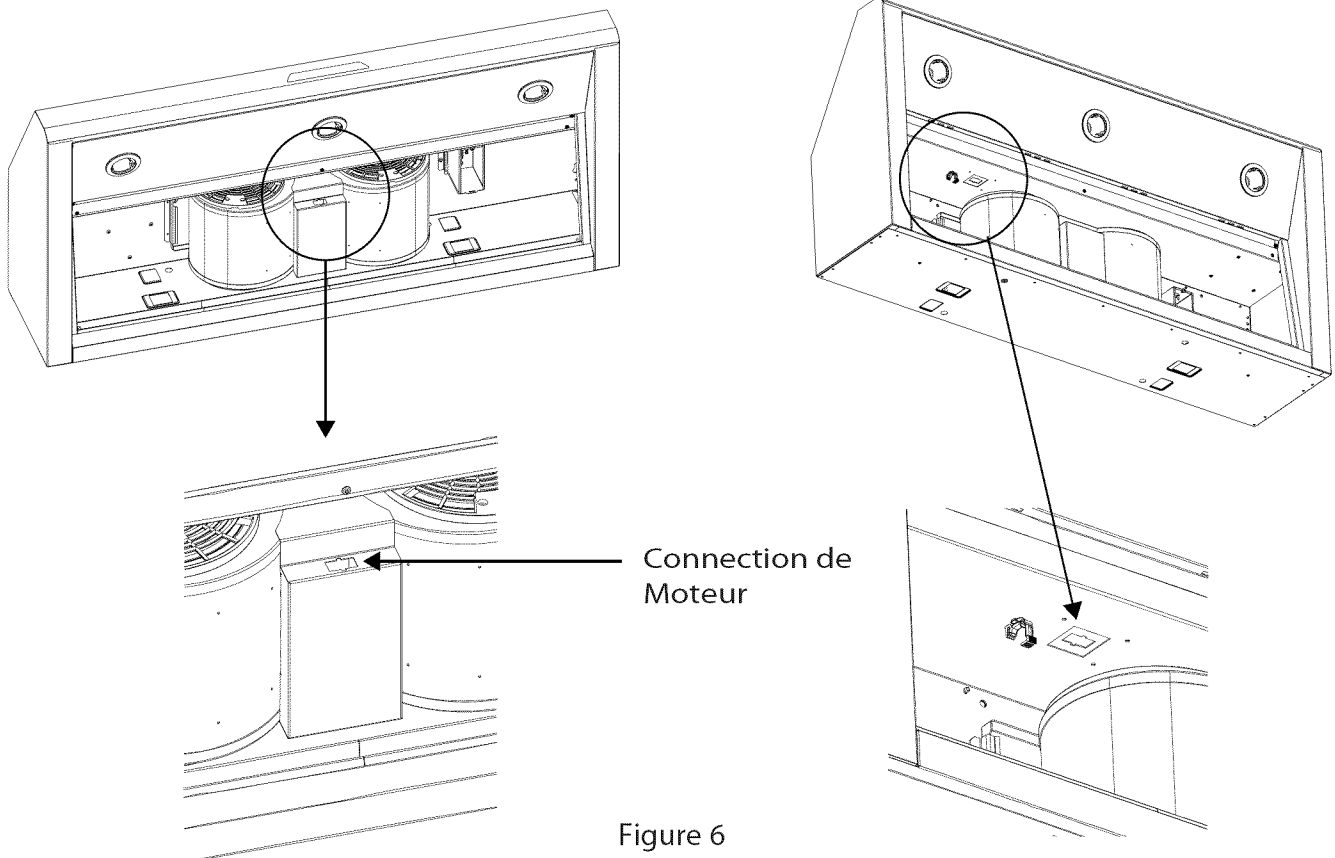

Figure 6
1. Brancher le ventilateur intégrale molex plug connector to the connector present inside the hood as shown Figure 6.